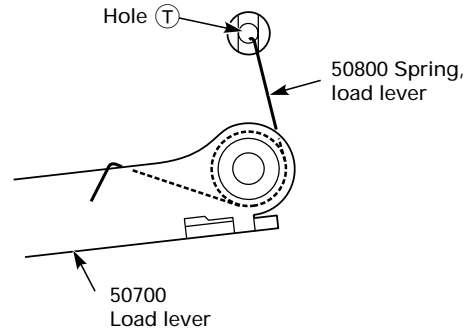
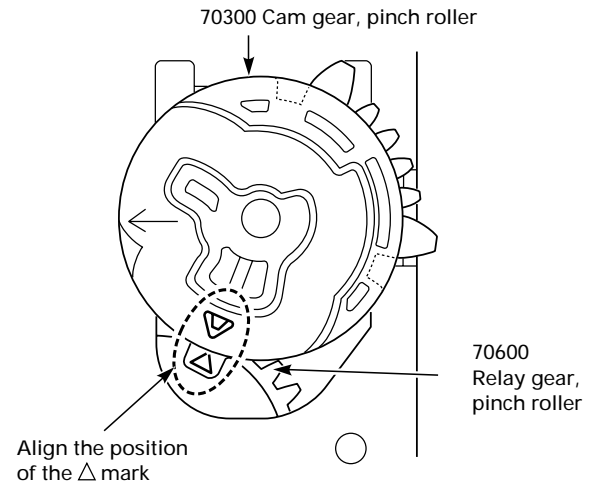

Fig. 8.30
Fig. 8.31
Note: Insert one end of the load lever spring (Pos. 50800) into hole (T) of the mechanism chassis and hook the other end to the load lever (Pos. 50700) as shown in Fig. 8.30. Position the cam gear of the pinch roller (Pos. 70300) and the relay gear of the pinch roller (Pos. 70600) as shown in Fig. 8.31.